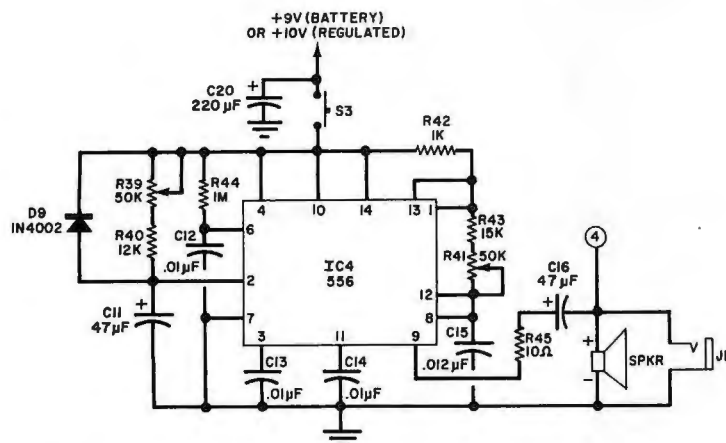

Fig. 1. The encoder uses a timer to generate a tone.
**About the Circuit.** The encoder, shown schematically in Fig. 1, consists of dual 556 timer IC4, a small dynamic loudspeaker, and supporting components. Half of IC4 is used as a monostable, or "one-shot," multivibrator, which allows the other timer to free run for a given period of time when activated by closing S3. The output of the second timer is an audio tone with a frequency between 1000
The numbers of the contacts on terminal strip *TS1* on the encoder/decoder components placement guide refer to the same numbered points in Fig. 1 and Fig. 2. This terminal strip provides a convenient means of connecting the system to its power supply, an external speaker, and any other warning device you might want to use, such as a Sonalert, LED, etc., when a properly coded signal is received. The decoder board will also accommodate a Sigma No. 77RE2 dpdt relay in the event the spst reed relay will not provide a sufficient number of contacts.